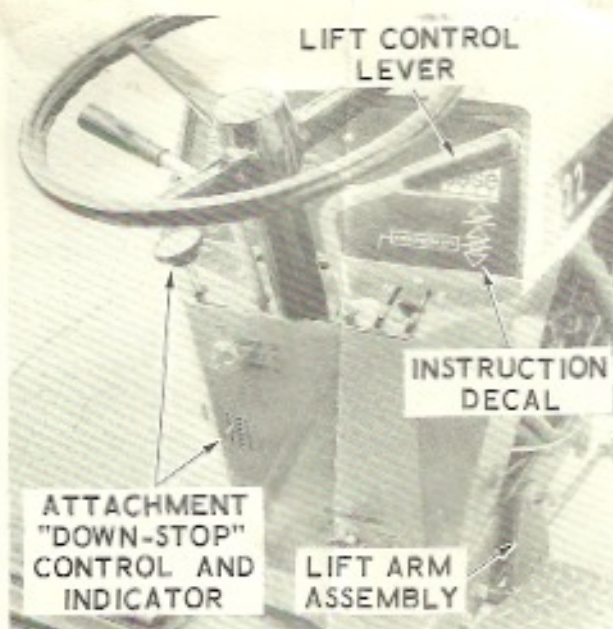

Figure 2. Operating Controls.
2. LIFT LEVER - See Figure 2.
Pull back on the lift control lever, Figure 2, to raise the hitch. To lower the hitch and apply "down pressure," push the lever ahead to the first stop position. The control lever has a centering spring which returns the lever to neutral from
3. **DEPTH ADJUSTMENT** - See Figure 2. Maximum operating depth can be adjusted with the "Down-Stop" control on the tractor. Turning the control downward will decrease the maximum operating depth. The position of the "Depth Indicator" on the lower dash panel provides a visual reference to the "Down-Stop" control setting.